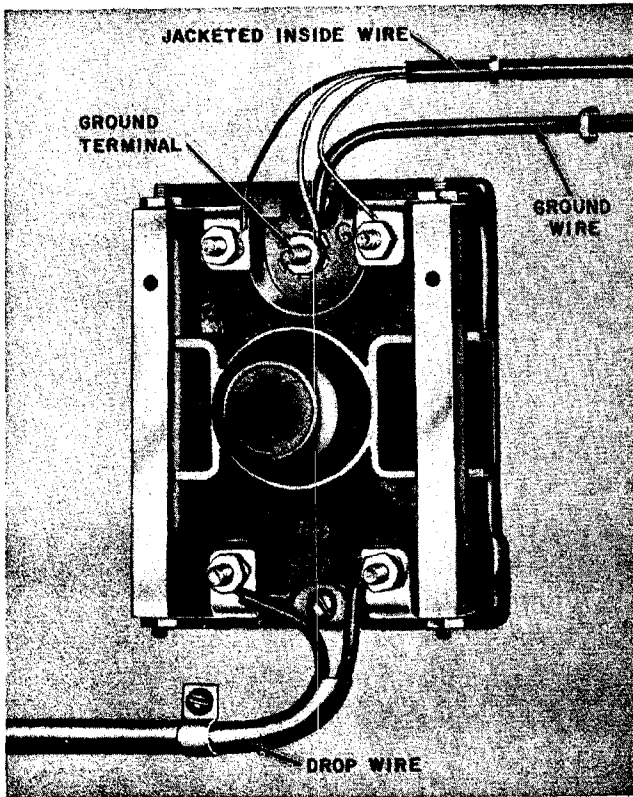

Fig. 12—98AA Protector
5.01 Typical installations of the fused 98AA, 106C, and 106CA Protectors are shown in Fig. 12, 13, and 14, respectively.